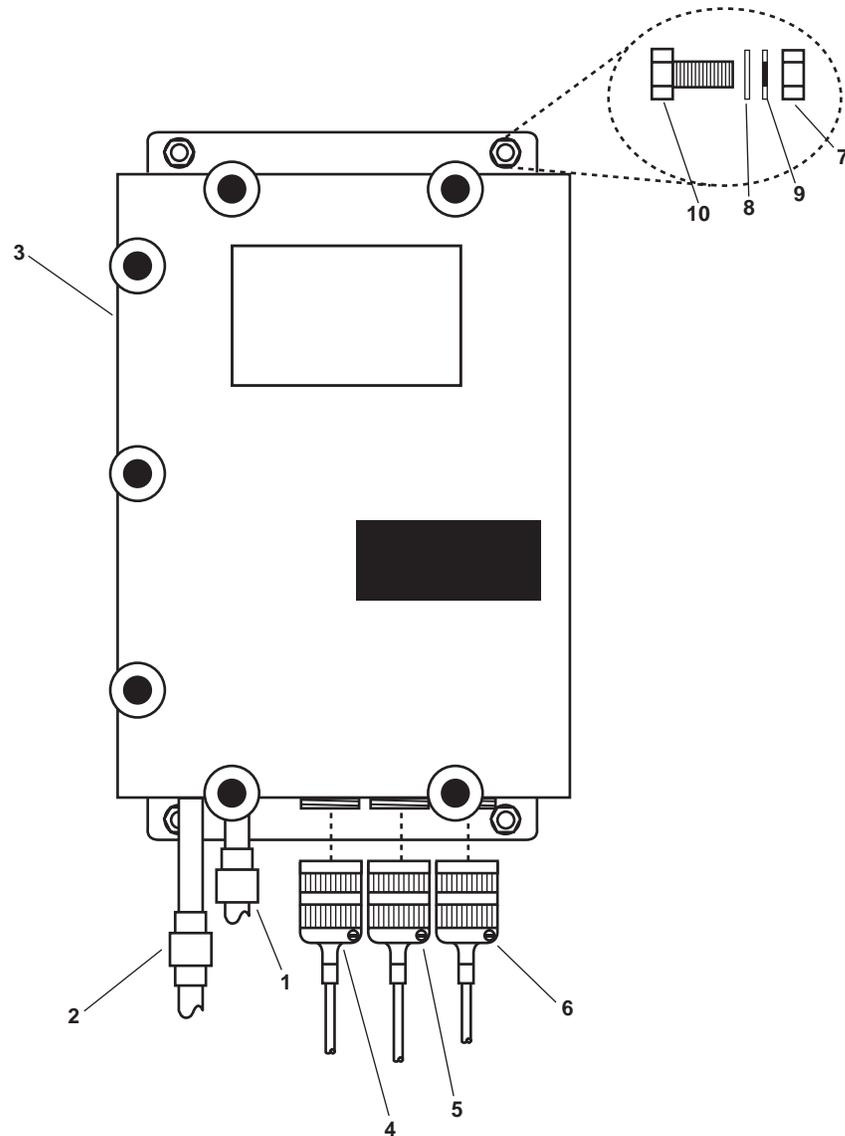

Figure 3. Sampling/Sensor Assembly
1. CLOSE, lock out and tag out OCM-4. Disconnect the union fittings (figure 3, items 1 and 2) at the bottom of the sampling/sensor assembly (figure 3, item 3).
2. Label and disconnect the remote relay cable connector (figure 3, item 4) from the sampling/sensor assembly (figure 3, item 3).
3. Label and disconnect the remote indicator cable connector (figure 3, item 5) from the sampling/sensor assembly (figure 3, item 3).
4. Label and disconnect the OCM junction box cable connector (figure 3, item 6) from sampling/sensor assembly (figure 3, item 3).
5. Remove the four nuts (figure 3, item 7), four flat washers (figure 3, item 8), and four lockwashers (figure 3, item 9) from the studs (figure 3, item 10), securing the sampling/sensor assembly (figure 3, item 3) to the bulkhead. Discard the lockwashers.
6. Remove the sampling/sensor assembly (figure 3, item 3) from the bulkhead.
7. Remove the inlet fitting (figure 3, item 1) and outlet fitting (figure 3, item 2) from the sampling/sensor assembly (figure 3, item 3). Set the fittings aside for installation.
1. Clean the male pipe threads of the inlet (figure 3, item 1) and outlet (figure 3, item 2) fittings and wrap the threads with antiseizing tape.
2. Install the inlet fitting (figure 3, item 1) and outlet fitting (figure 3, item 2) onto the sampling/sensor assembly (figure 3, item 3).
3. Position the sampling/sensor assembly (figure 3, item 3) on the bulkhead.
4. Install the four nuts (figure 3, item 7), four flat washers (figure 3, item 8), and four new lockwashers (figure 3, item 9) on the studs (figure 3, item 10).
5. Connect the OCM junction box cable connector (figure 3, item 6) to the sampling/sensor assembly (figure 3, item 3).
6. Connect the remote indicator cable connector (figure 3, item 5) to the sampling/sensor assembly (figure 3, item 3).
7. Connect the remote relay cable connector (figure 3, item 4) to the sampling/sensor assembly (figure 3, item 3).
8. Connect the unions (figure 3, items 1 and 2) to their piping.